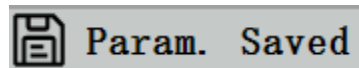

Figure 3-1
in Figure 3-1.
2. The screen shows "Take Successfully", which means that the picture has been taken successfully. This is shown in Figure 3-1.